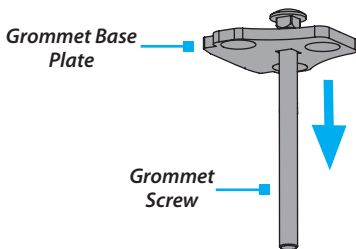

Figure 7
1. Insert the **Grommet Screw (5)** through the **Grommet Base Plate (3)**. (*Figure 7*)